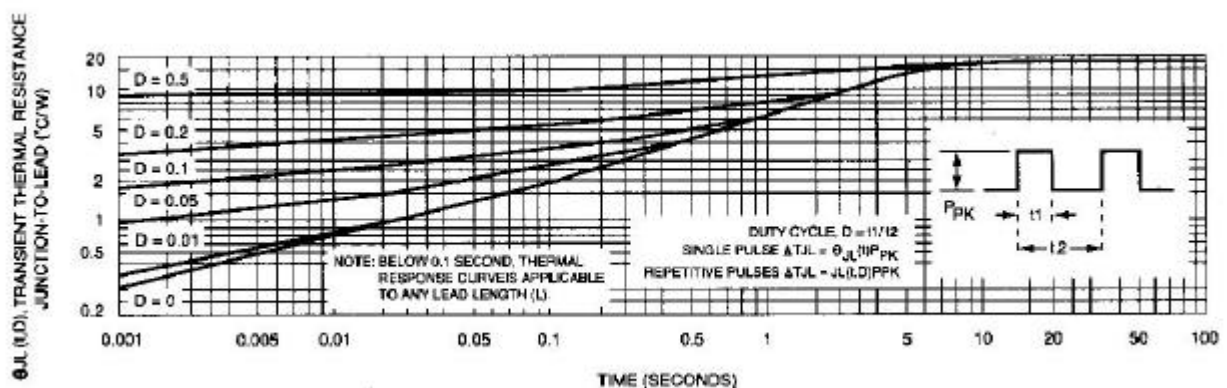
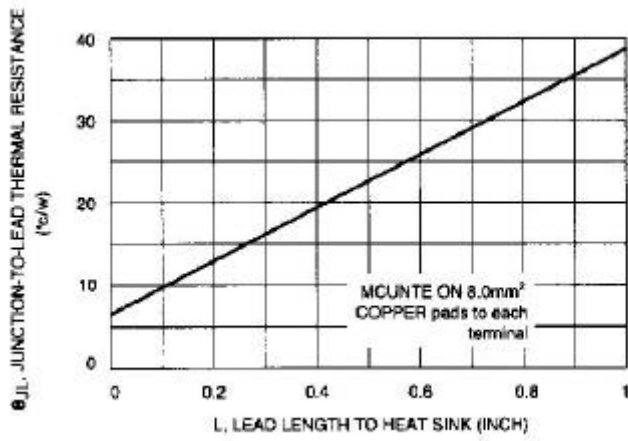
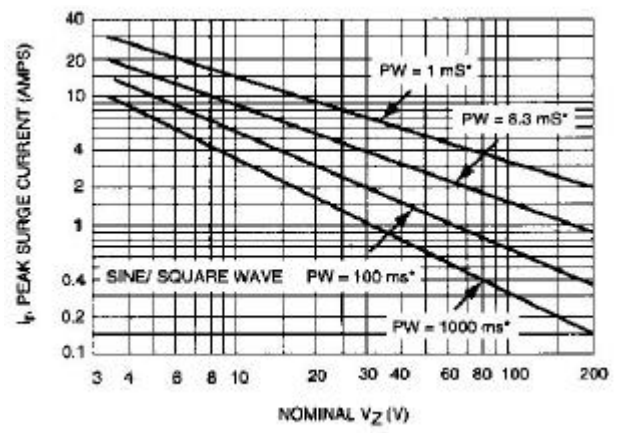
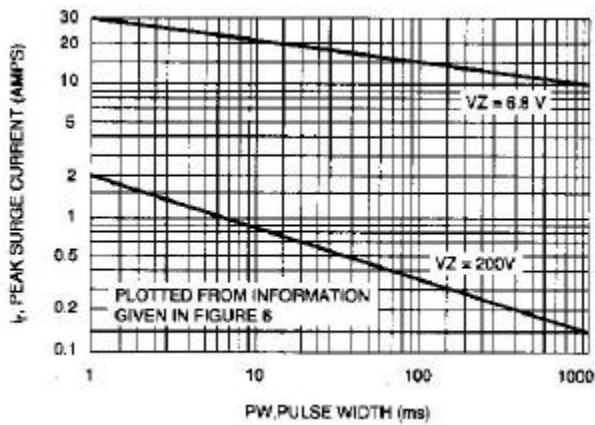

Fig. 3-TYPICAL THERMAL RESPONSE
Fig. 4-TYPICAL THERMAL RESISTANCE
Fig. 5-MAXIMUM NON-REPETITIVE SURGE CURRENT
Fig. 6-PEAK SURGE CURRENT VERSUS PULSE
3. SURGE CURRENT (I_r) - Surge current is specified as the maximum allowable peak, non-recurrent square-wave current with a pulse width, PW, of 8.3 ms. The data given in Figure 5 may be used to find the maximum surge current for a quare wave of any pulse width between 1 ms and 1000ms by plotting the applicable points on logarithmic paper. Examples of this, using the 6.8v and 200V zeners, are shown in Figure 6. Mounting contact located as specified in Note 3. ($T_A=25$).
θ_{JL} is the increase in junction temperature above the lead temperature and may be found from Figure 3 for a train of power pulses or from Figure 4 for dc power.
Data of Figure 3 should not be used to compute surge capability. Surge limitations are given in Figure 5. They are lower than would be expected by considering only junction temperature, as current crowding effects cause temperatures to be extremely high in small spots resulting in device degradation should the limits of Figure 5 be exceeded.